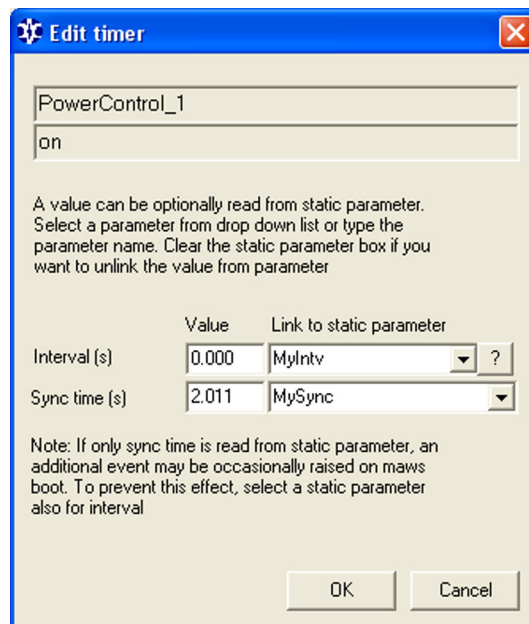

Figure 92 **Edit Timer Window**
2. Right-click the timer to be modified either in the **Interval** or the **Synch time** column. Select **Advanced edit** from the list. The **Edit Timer** window opens; see Figure 92 on page 188.